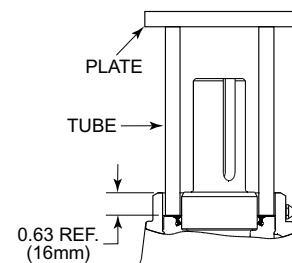

Figure 6.2.3.4 Final Installation of Inboard Seal
- Carefully place the outboard seal over the shaft, garter spring side up. Reference Figure 6.2.3.5.